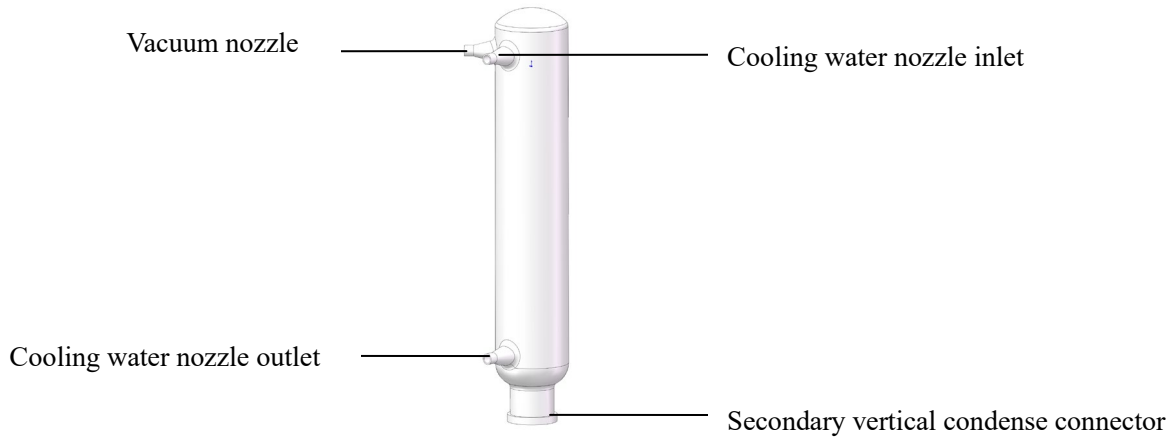

Figure 2
| (10) Pole                                    | (11) Main vertical condense (Figure 2)  | (12) Main vertical condense clamp      |